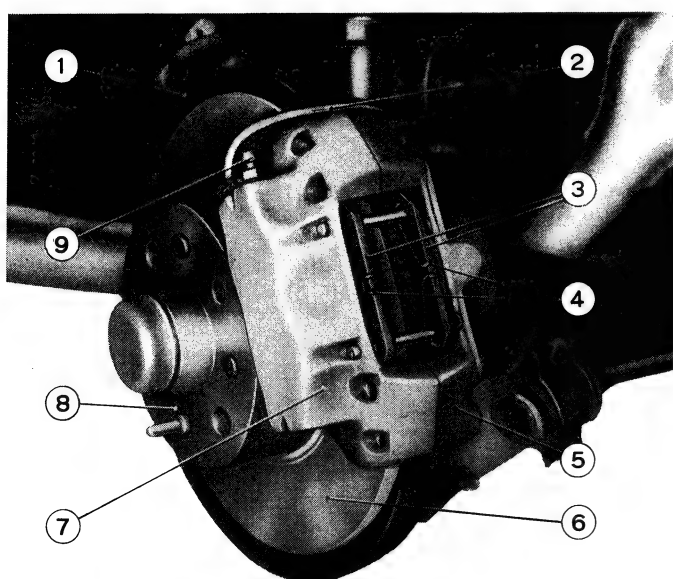

Fig. 160. - Right front wheel disc brake assembly - 1500 Cabriolet.
The caliper is fitted with three cylinders: one cylinder on caliper inboard half and two cylinders on caliper outboard half (fig. 160). The brake fluid line from master cylinder is connected with the caliper inner half and circuited to relevant cylinder. The two cylinders of the caliper outer half are circuited to the inner half cylinder through a proper line (2, fig. 160). Friction lining pads are fitted between pistons and the brake disc and retained in calipers by means of pins, fasteners and cotters.
Withdraw lining pads as follows: remove fasteners (4, fig. 160), slide off retaining pins and remove the plates (3) which carry the lining pads. Push in pistons in cylinder bores, using care not to ruin cylinder rubber seals in doing so.